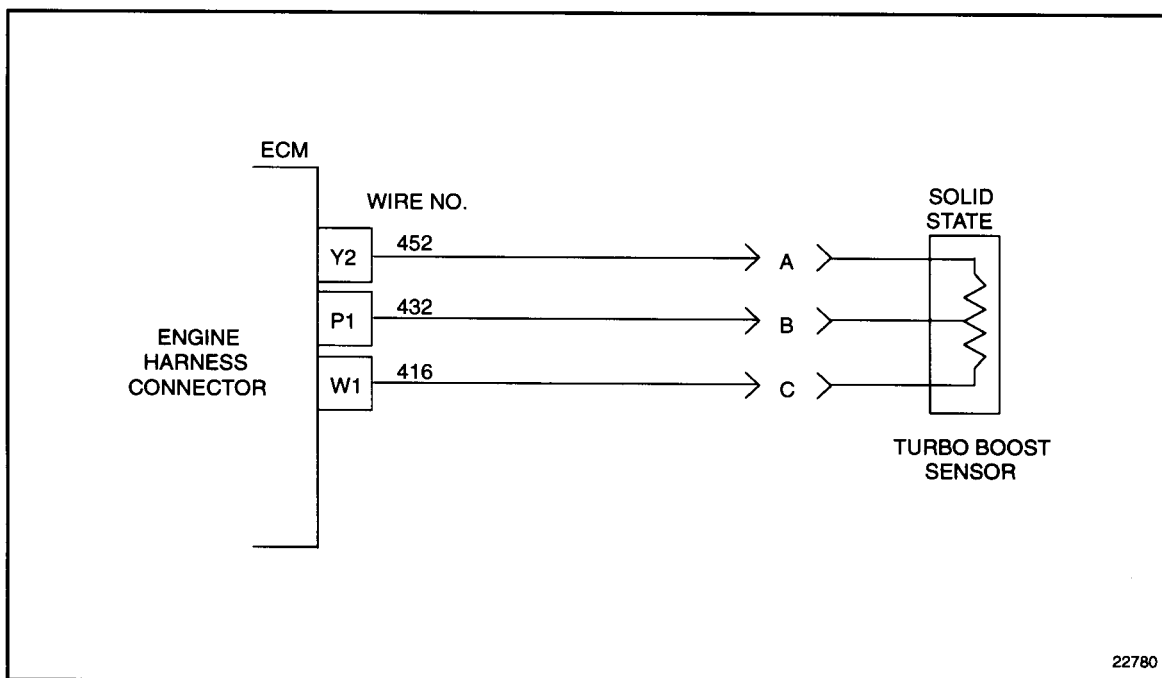

Figure 33-5 Turbo Boost Sensor
1. Check terminals at the TBS connector (both sensor and harness side) for damage: bent, corroded, and unseated pins or sockets. See Figure 33-5.